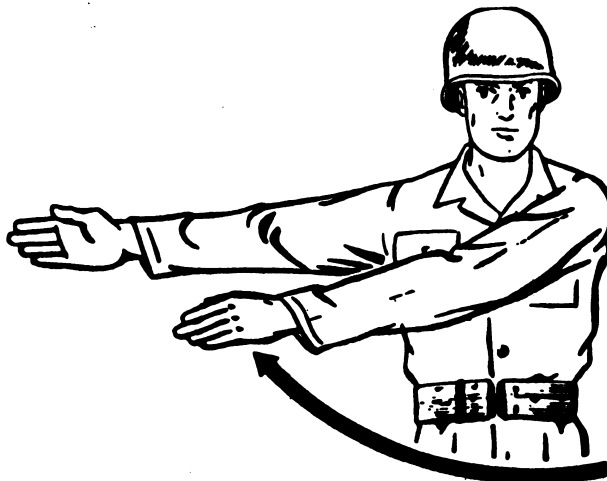

Figure 9. Move left.
i. To indicate move left, extend right arm sideways, horizontally, in direction of movement and repeatedly swing left arm in front of body in the same direction (fig. 9).